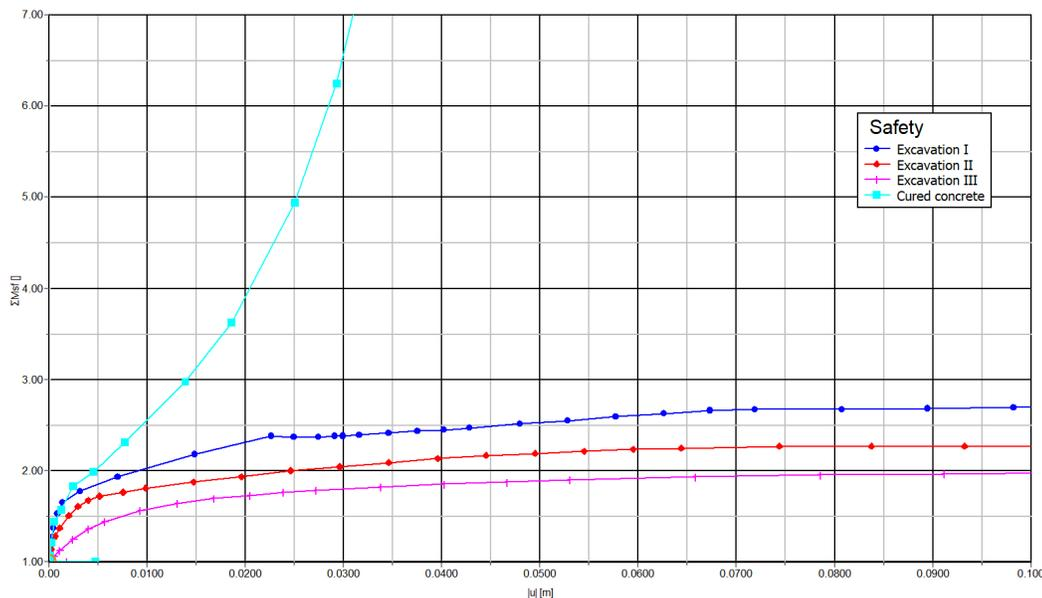

Figure 64:  $\Sigma$ Msf (safety factor) as a function of the total displacement
The stability of the excavation can be evaluated from the calculated safety factor after each excavation stage. Use the Curves program to plot  $\Sigma$  Msf (the safety factor) as a function of the displacements  $|u|$  (see Figure 64:  \$\Sigma\$ Msf \(safety factor\) as a function of the total displacement (on page 89)). In Phase 3, the stability is the lowest. However,  $\Sigma$  Msf remains greater than 1 and so collapse would not be expected.
4. For the y-axis, select **Project** and then select **Multiplier >  $\Sigma$  Msf**. The Safety phases are considered in the chart. As a result, the curve of Figure 64:  \$\Sigma\$ Msf \(safety factor\) as a function of the total displacement (on page 89) appears.